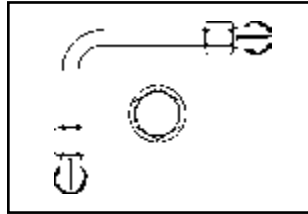

Fig. A26 — Correct
- **Keep tube lines away from components that require regular maintenance.** (See Figures A26 and A27.)